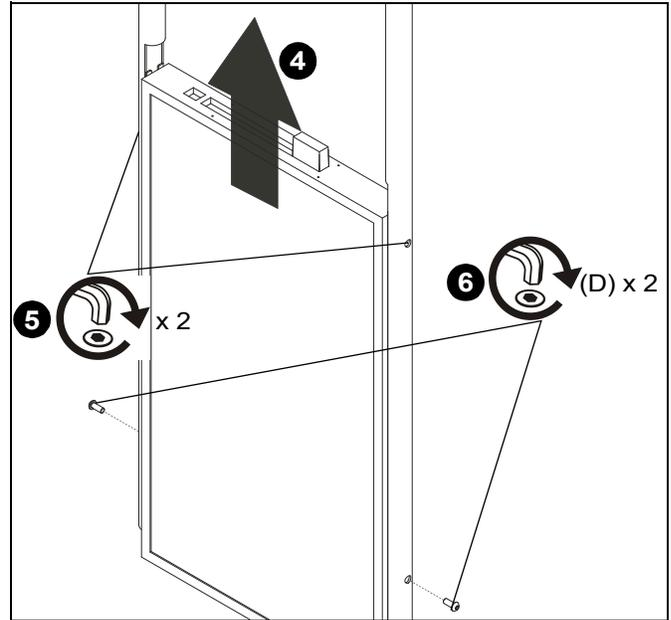

Figure 3
4. Use installed screws (D) to hang display onto ceiling posts (A). (See Figure 3)
6. Use two M8x20mm button head cap screws (D) to secure bottom of display to ceiling posts (A). (See Figure 3)